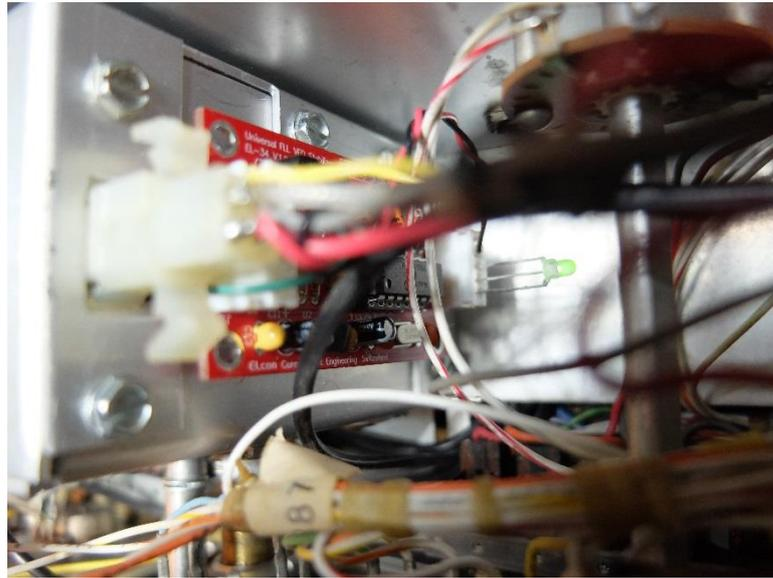

Figure 9 - EL-34 Mounted
- (11) Mount the EL-34 under the 4-pin connector on the side of the VFO case. I used 3M Velcro with J2 up. See Figure 9.